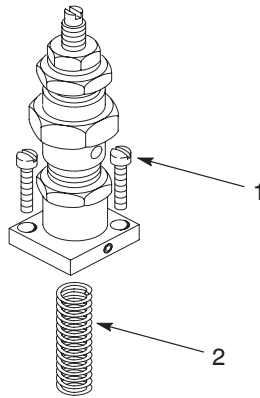

Figure 9-22 Installing the air cap assembly
1. See Figure 9-22. Position the air cap assembly (2) and large compression spring (3) on the module body. Coat the air cap screws (1) with Teflon paste and use them to secure the air cap to the module body. Tighten the screws to 1.5–1.7 N•m (13–15 in.-lb).